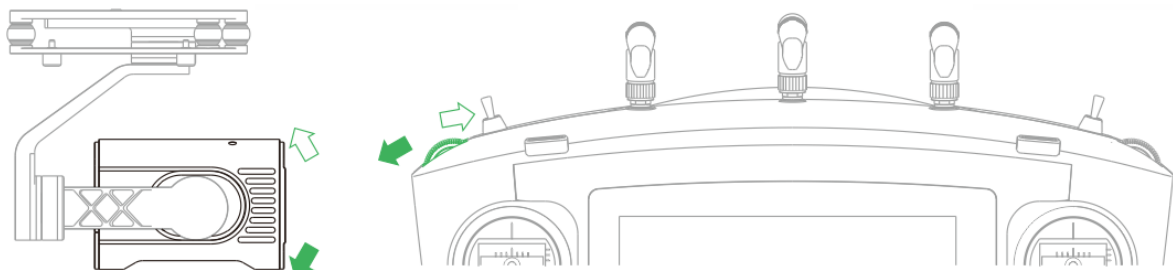

Figure 2-16
- PTZ pitch pulley wheel. It is to control the camera pitch angle. See Figure 2-16.